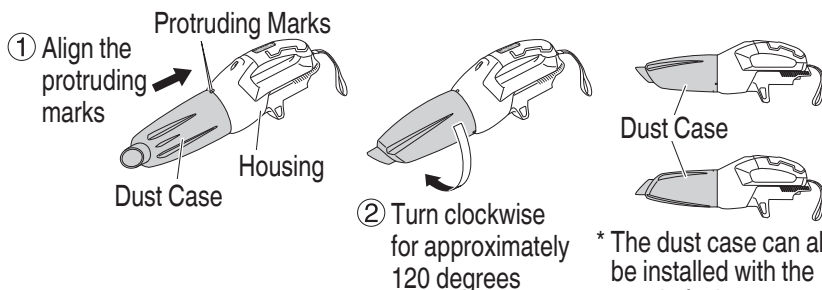

Fig. 12
(5) Install the dust case (Fig. 12)